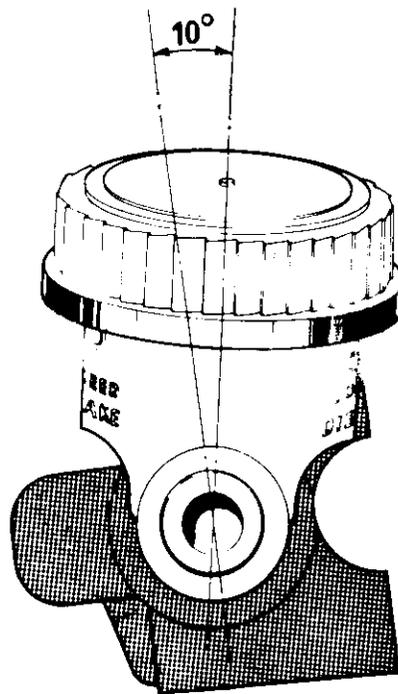

Fig. F15. Showing angle of brake reservoir
- (5) Now unscrew the cylinder barrel until air is heard to escape from the breather port (B). At this point the port will have just become uncovered.
- (6) Unscrew the barrel one complete turn and set the angle to 10° as shown in Fig. F15. The milled flat on the threaded end of the barrel must be located when the grub screw (Fig. F13) is being re-tightened and will set the angle automatically.